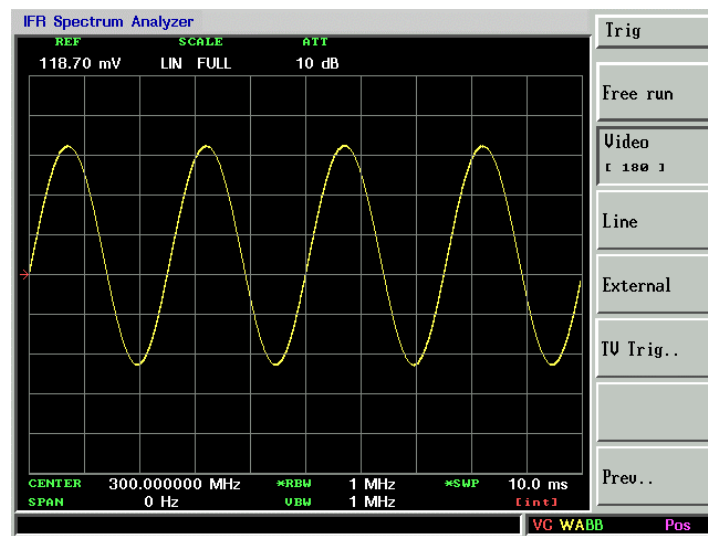

Figure 2-25. Measuring Modulation in Zero Span.
11. Adjust the sweep time to change the horizontal scale by pressing **CPL**, *Swp Time [MNL]*, *Swp Time*, 10 ms. See Figure 2-25.